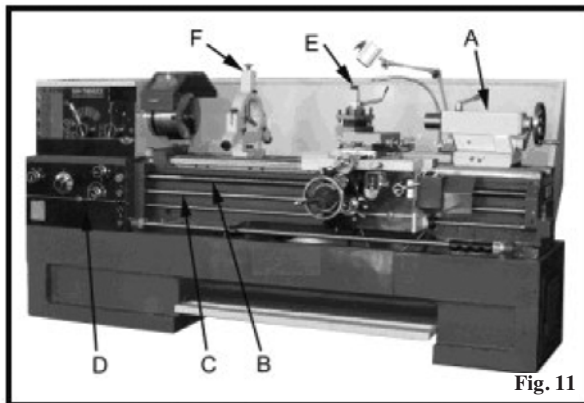

Fig. 11
**Tailstock.** The tailstock (A, Fig. 11) slides on a v-way and can be locked at any location by a clamping lever. The tailstock has a heavy duty quill with a Morse Taper #4, or Morse Taper #5 (18" models).
**Leadscrew and Feed Rod.** The leadscrew (B, Fig. 11) and feed rod (C, Fig. 11) are mounted on the front of the machine bed. They are connected to the gearbox at the left and are supported by bearings on both ends. Both are equipped with shear pins.
**Feed Gear Box.** The gear box (D, Fig. 11) is made from high quality cast iron and is mounted to the left side of the machine bed.
**Steady Rest.** The steady rest (F, Fig. 11) serves as a support for shafts on the free tailstock end. The steady rest is mounted on the bedway and secured from below with a bolt, nut and locking plate. The sliding fingers require continuous lubrication at the contact points with the workpiece to prevent them from premature wear.
The traveling follow rest (E, Fig. 11) is mounted on the saddle and follows the movement of the turning tool. Only two fingers are required as the place of the third is taken by the turning tool. The follow rest is used for turning operations on long, slender workpieces. It prevents the workpiece from flexing under the pressure of the cutting tool. The sliding fingers are set similar to the steady rest, free of play, but not binding. Always lubricate adequately with lead based grease during operation.